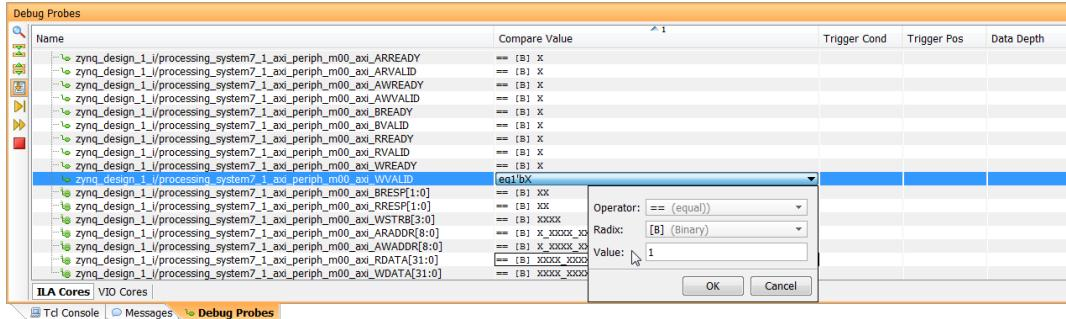

Figure 71: Debug Probe View
9. First, click the **Compare Value** column and the ***WVALID** row, as shown in (Figure 71).